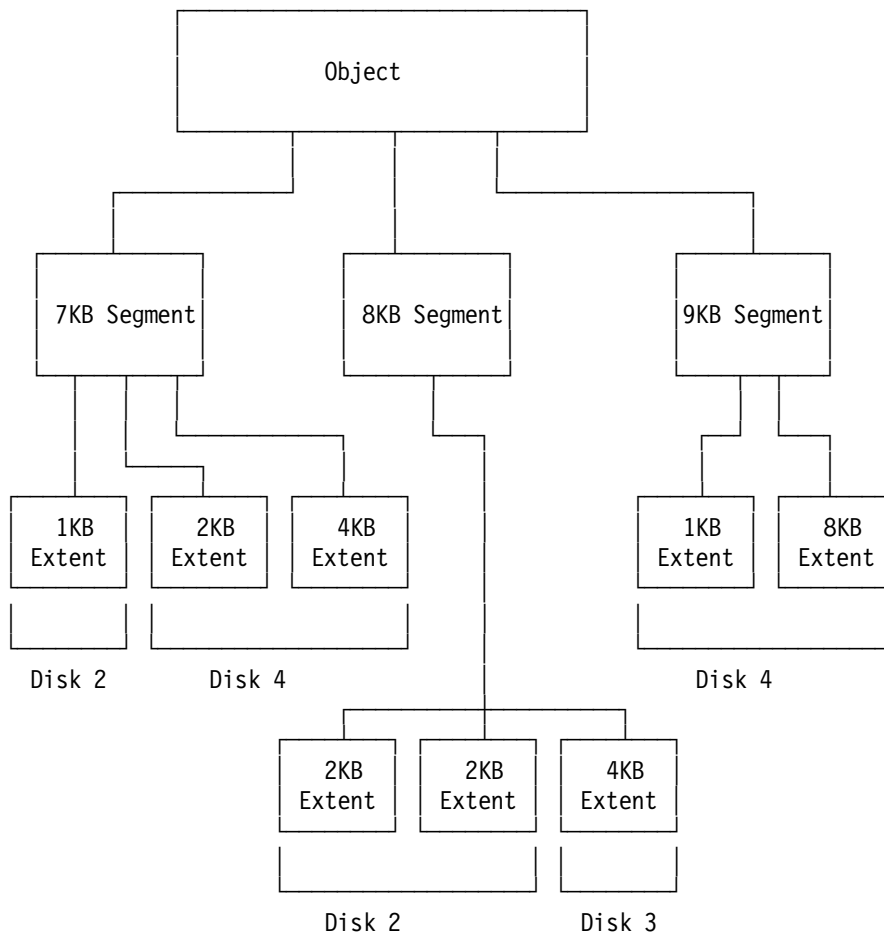
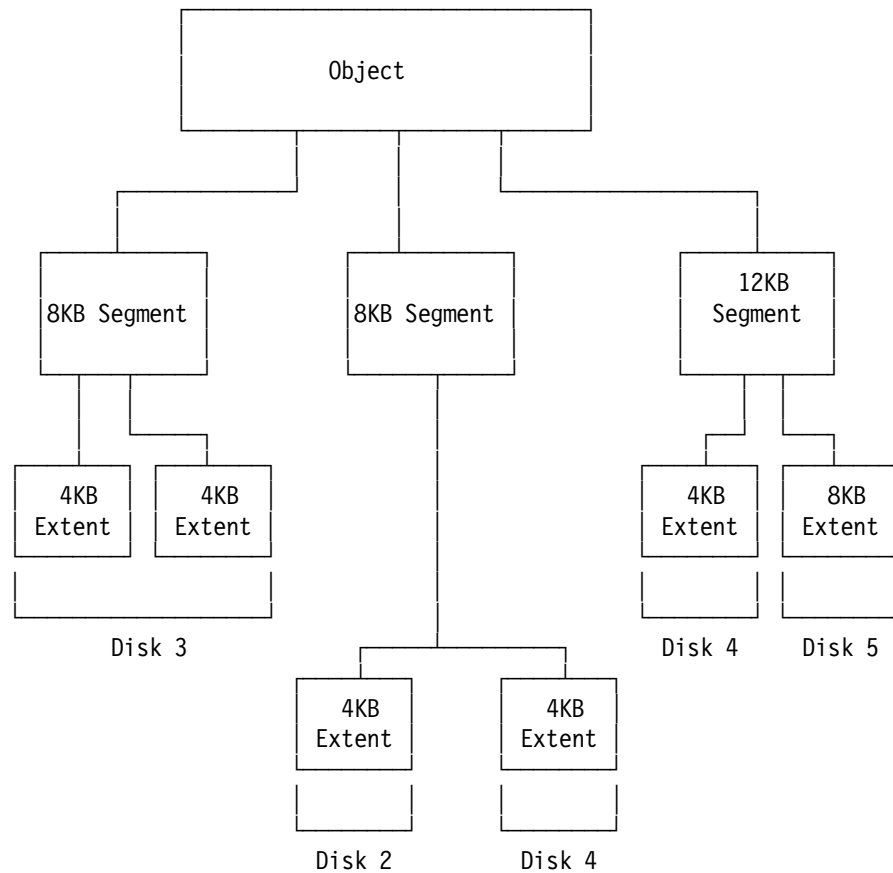

Figure 26. ASM's View of an Object on AS/400 IMPI Processor
Figure 28. Object Structure After 4KB Alignment
For example, Figure 26 on page 82 shows an object on AS/400 IMPI processor with three segments, and each segment is made up of one or more disk extents. That is, the object is stored as three logical parts, and each part is made up of several pieces of data (extents). The pieces of data are 512 bytes long (or a multiple of 512 bytes). The extents are distributed on different disk units within the ASP where the object resides. The allocation and placement of the extents on the disk units are controlled by the Storage Management (SM) component.
After disk preparation has completed successfully for the entire system, each permanent segment whose size was not 4KB or multiples thereof increases to 4KB or the nearest multiple of 4KB. The disk preparation task moves all of the data around such that the minimum extent has a contiguous 4KB allocation, or multiples thereof. For example, the object in Figure 26 on page 82 had 7KB, 8KB, and 9KB segments before disk preparation. After the disk preparation task, the segments are aligned, and the object has two 8KB segments and one 12KB segment, as shown in Figure 28. In addition, each extent is 4KB, or a multiple thereof.